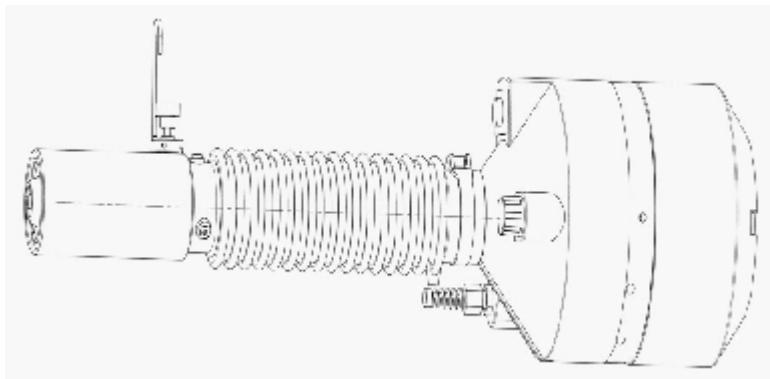

Figure: 7
4. Plug in the two flat plugs with blade receptacle onto the switch connection. Then lead the shaft of the potentiometer through the hole of the housing. Ensure that the shaft of the potentiometer remains even and insert the housing without twisting. Now press the rear hood onto the PA-ring until it fits onto the PA-ring. Put the control knob onto the shaft of the potentiometer and tighten the locking nut again and close the control knob with the lid of the potentiometer (figure: 7).